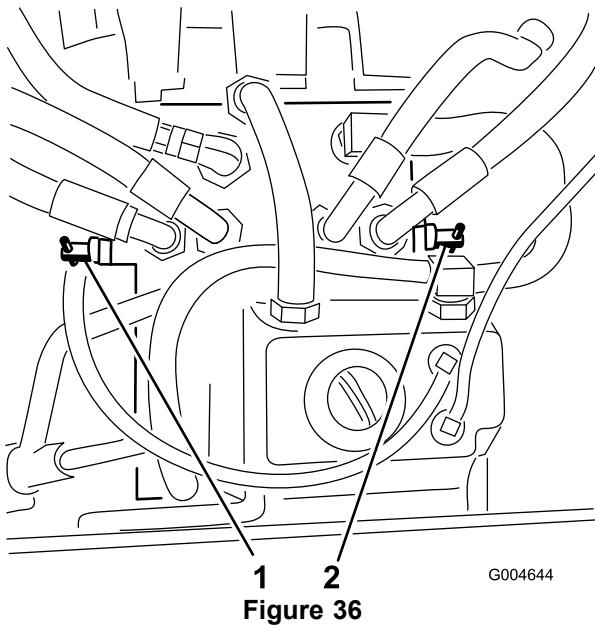

Figure 36
3. Rotate each by-pass valve counterclockwise 1 turn (Figure 36).
Rotate each by-pass valve clockwise 1 turn and hand tighten them (torque of approximately 8 N·m (71 in-lb) (Figure 36).